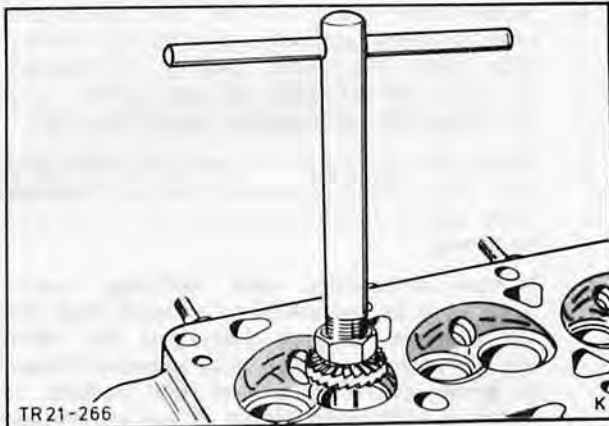

Fig. 178. Recut valve seat
3. Using Special Tool recut valve seat as specified (see Technical Data), Fig. 178.